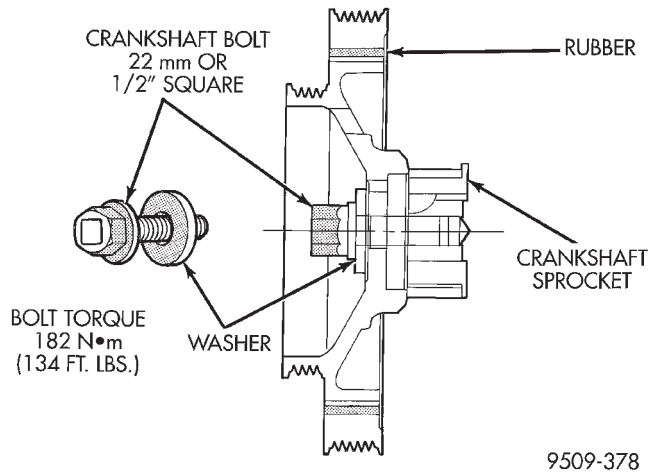

Fig. 50 Crankshaft Damper
(3) Remove crankshaft center bolt (Fig. 50) and remove crankshaft damper.
(4) Reverse Procedure for Installation. See (Fig. 50) for crankshaft bolt torque.